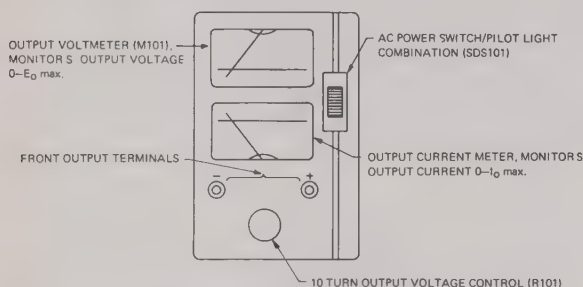

FIG. 2-1 FRONT PANEL TERMINATIONS, PCX-MAT
- FRONT PANEL: Refer to FIG. 2-1 (PCX-MAT only).